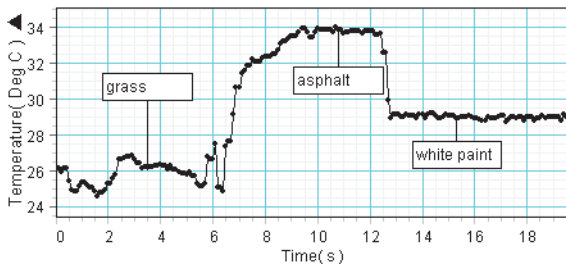

Figure 1.4: Various ground surfaces
- Measure the temperatures of various outdoor ground surfaces (Figure 1.4).